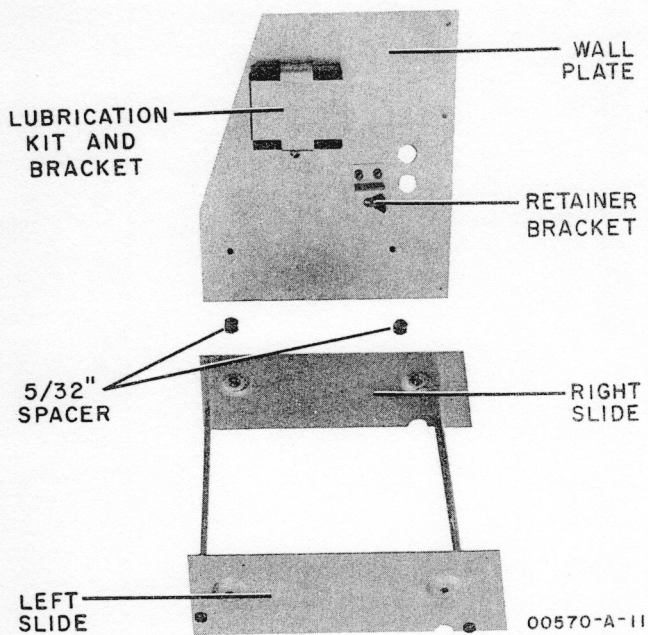

Figure 2-2. Assembled Mounting Hardware
- g. Assemble mounting hardware as shown in figure 2-2. Apply a light coat of paraffin along the upper edge of each slide for lubrication. Place the clock on the slides. Check to see that clock slides freely.